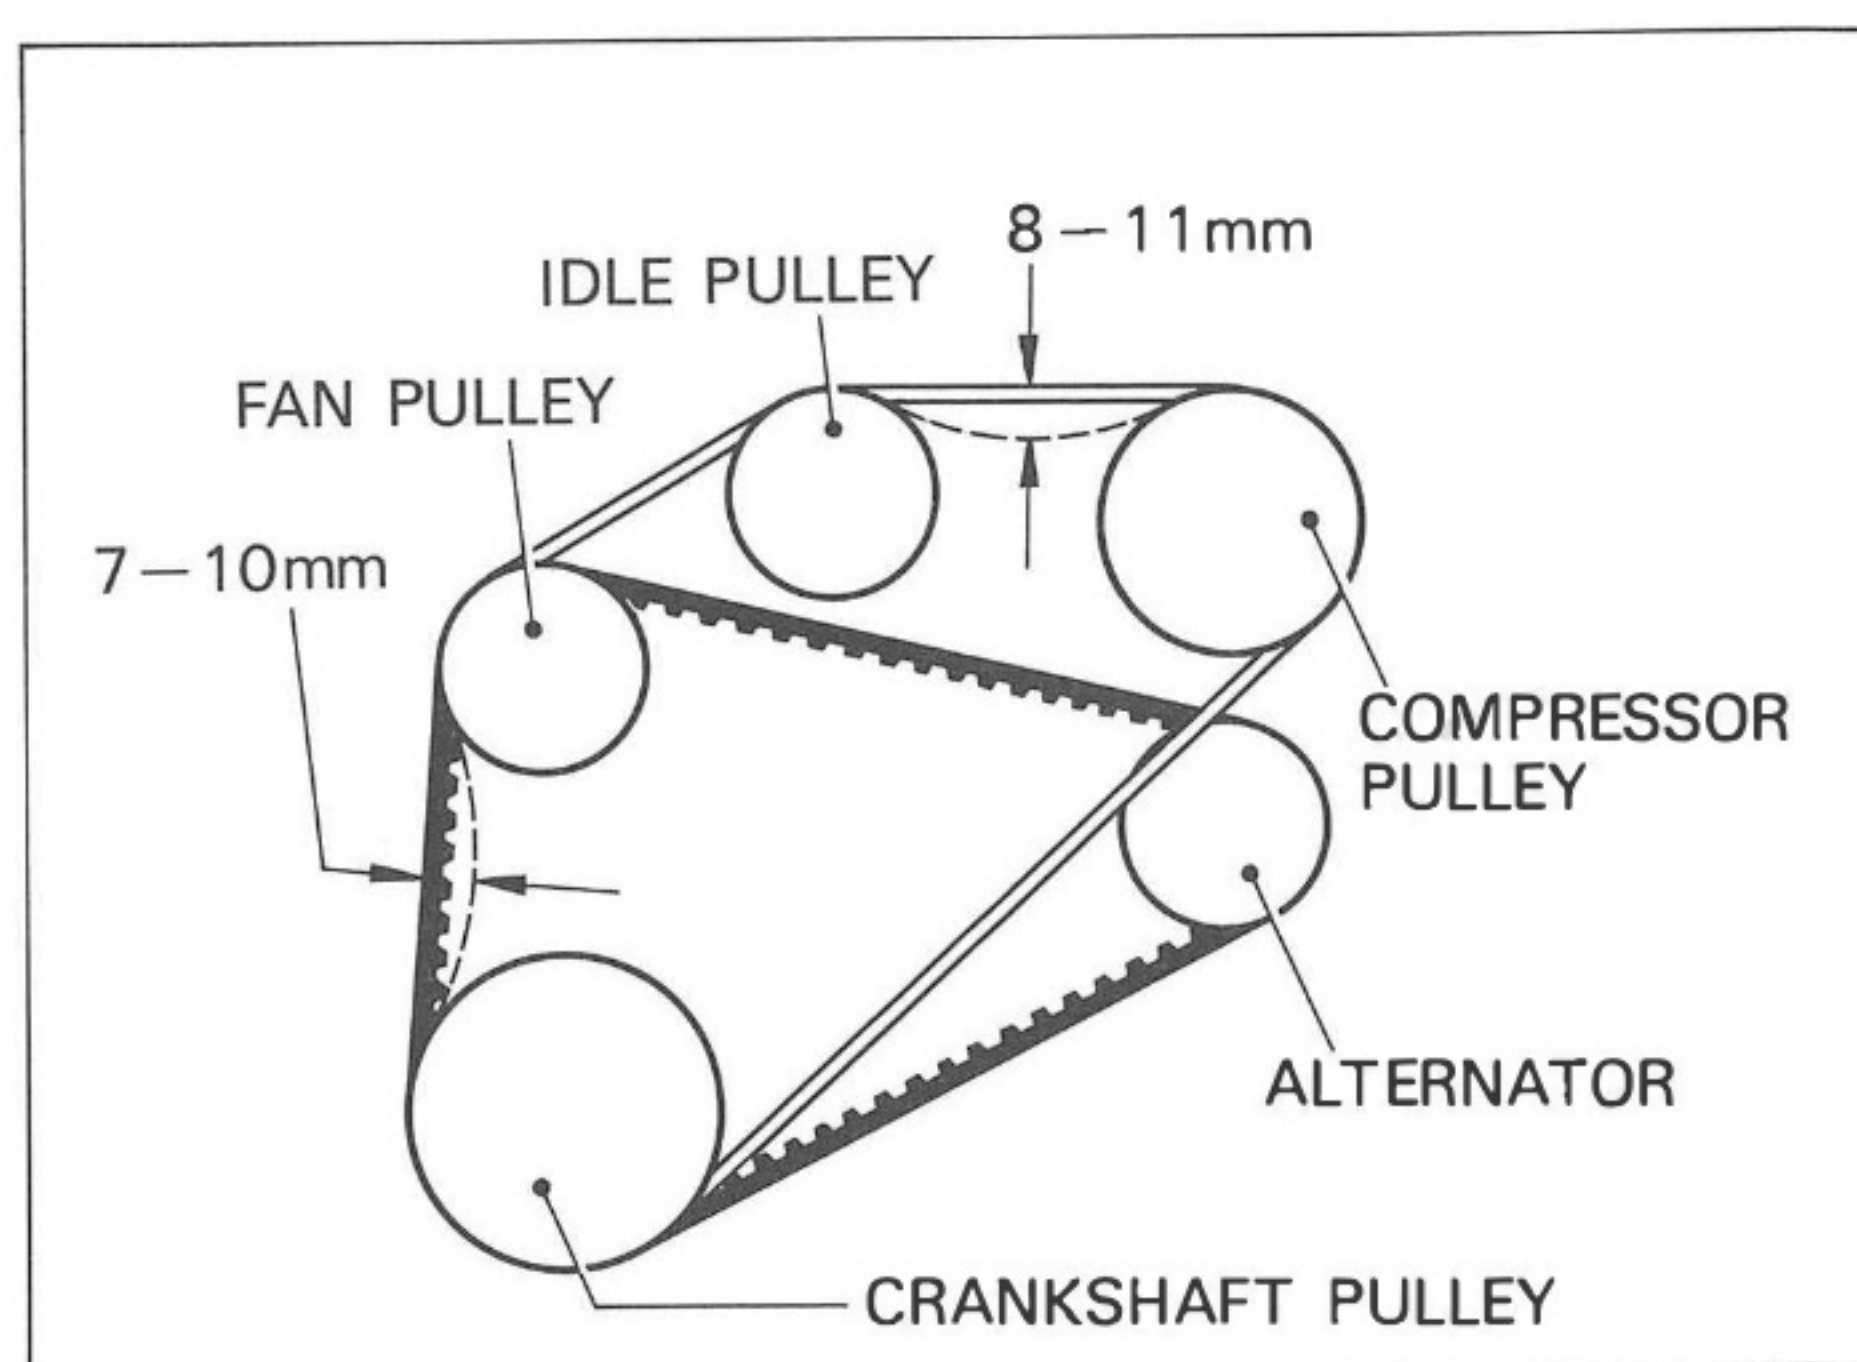

Fig. 2-9
- B) Install compressor belt and adjust belt tension by idle pulley adjusting bolt. See Fig. 2-9.